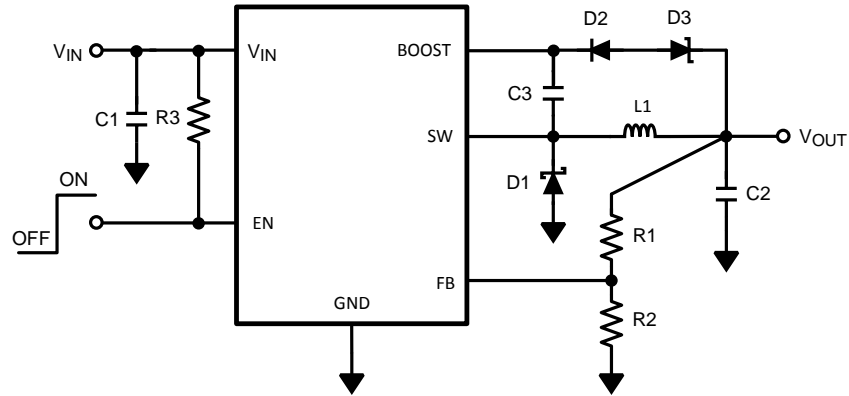

**Figure 27. LMR12007X (1.6MHz)
**Table 4. Bill of Materials for Figure 27**